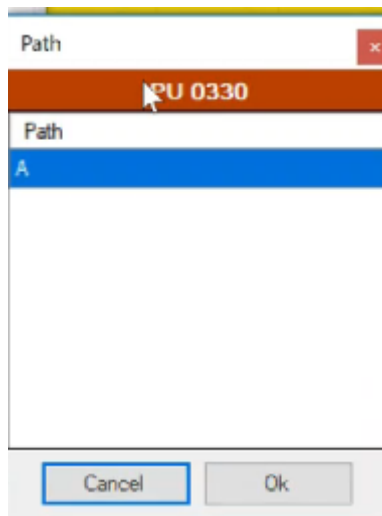

Fig. 280 - Connect path to PU
2. The software will recognize the PU number and the user can associate to a path (Fig. 280);